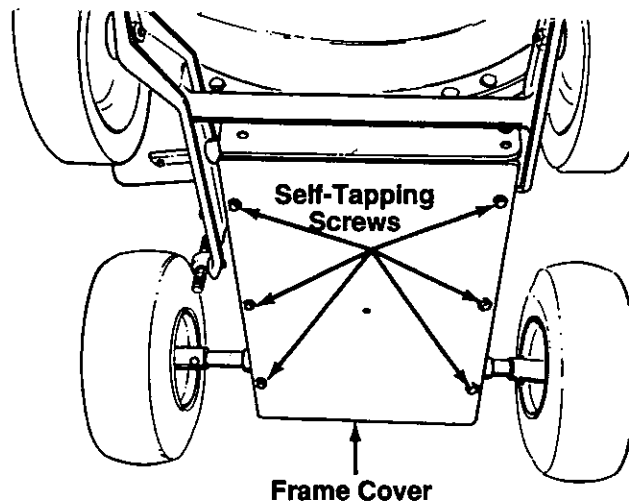

FIGURE 16.
3. Remove the frame cover by removing eight self-tapping screws from underneath the chipper-vacuum. See figure 16.
4. Remove the frame cover by removing eight self-tapping screws from underneath the chipper-vacuum. Refer to figure 16.